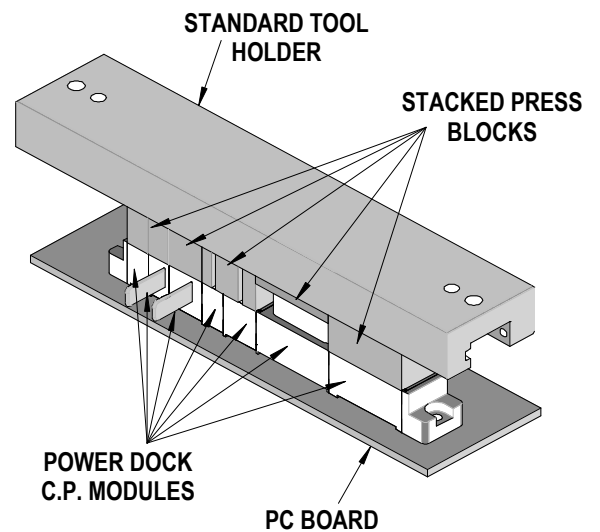

Figure 1 (For Power Dock Module assemblies)
4. The connector assembly is then pressed on to the PC board with a manual arbor press or other flat platen press. See Figure 1.